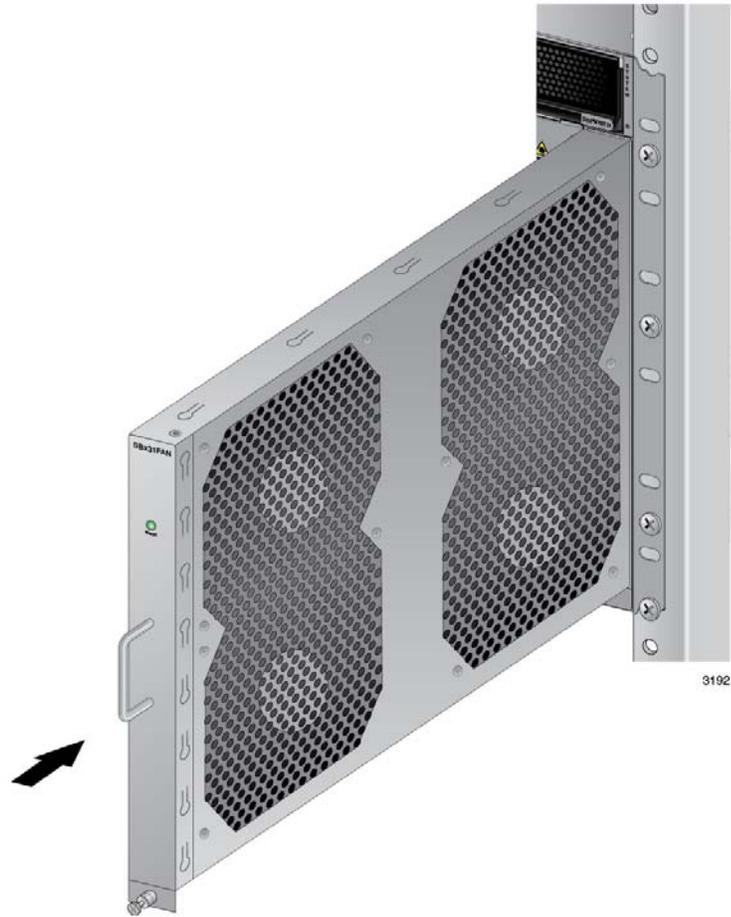

Figure 165. Installing a New AT-SBxFAN12 Fan Module
1. Orient the new module with the LED and module name on top and carefully slide the module into the slot in the chassis. Refer to Figure 165 on page 260.